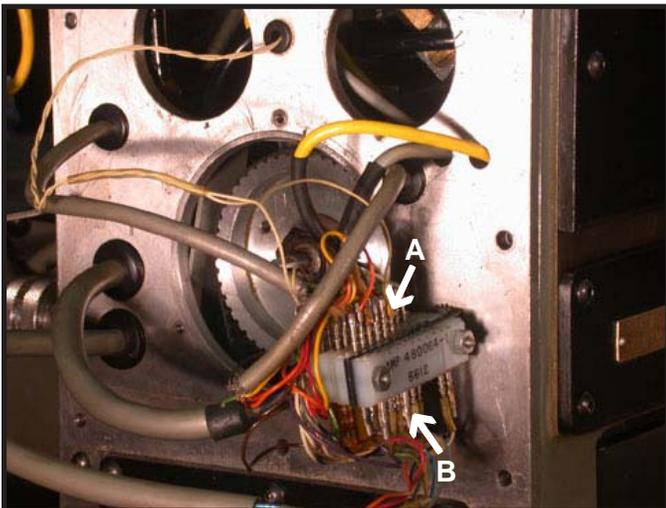

Figure 4.1.7
Cut the X axis resolver wires just above (Figure 4.1.7 - A) and just below (B) the pins on the connector. The cable below the terminal block will have the X axis encoder connector butt spliced to it.